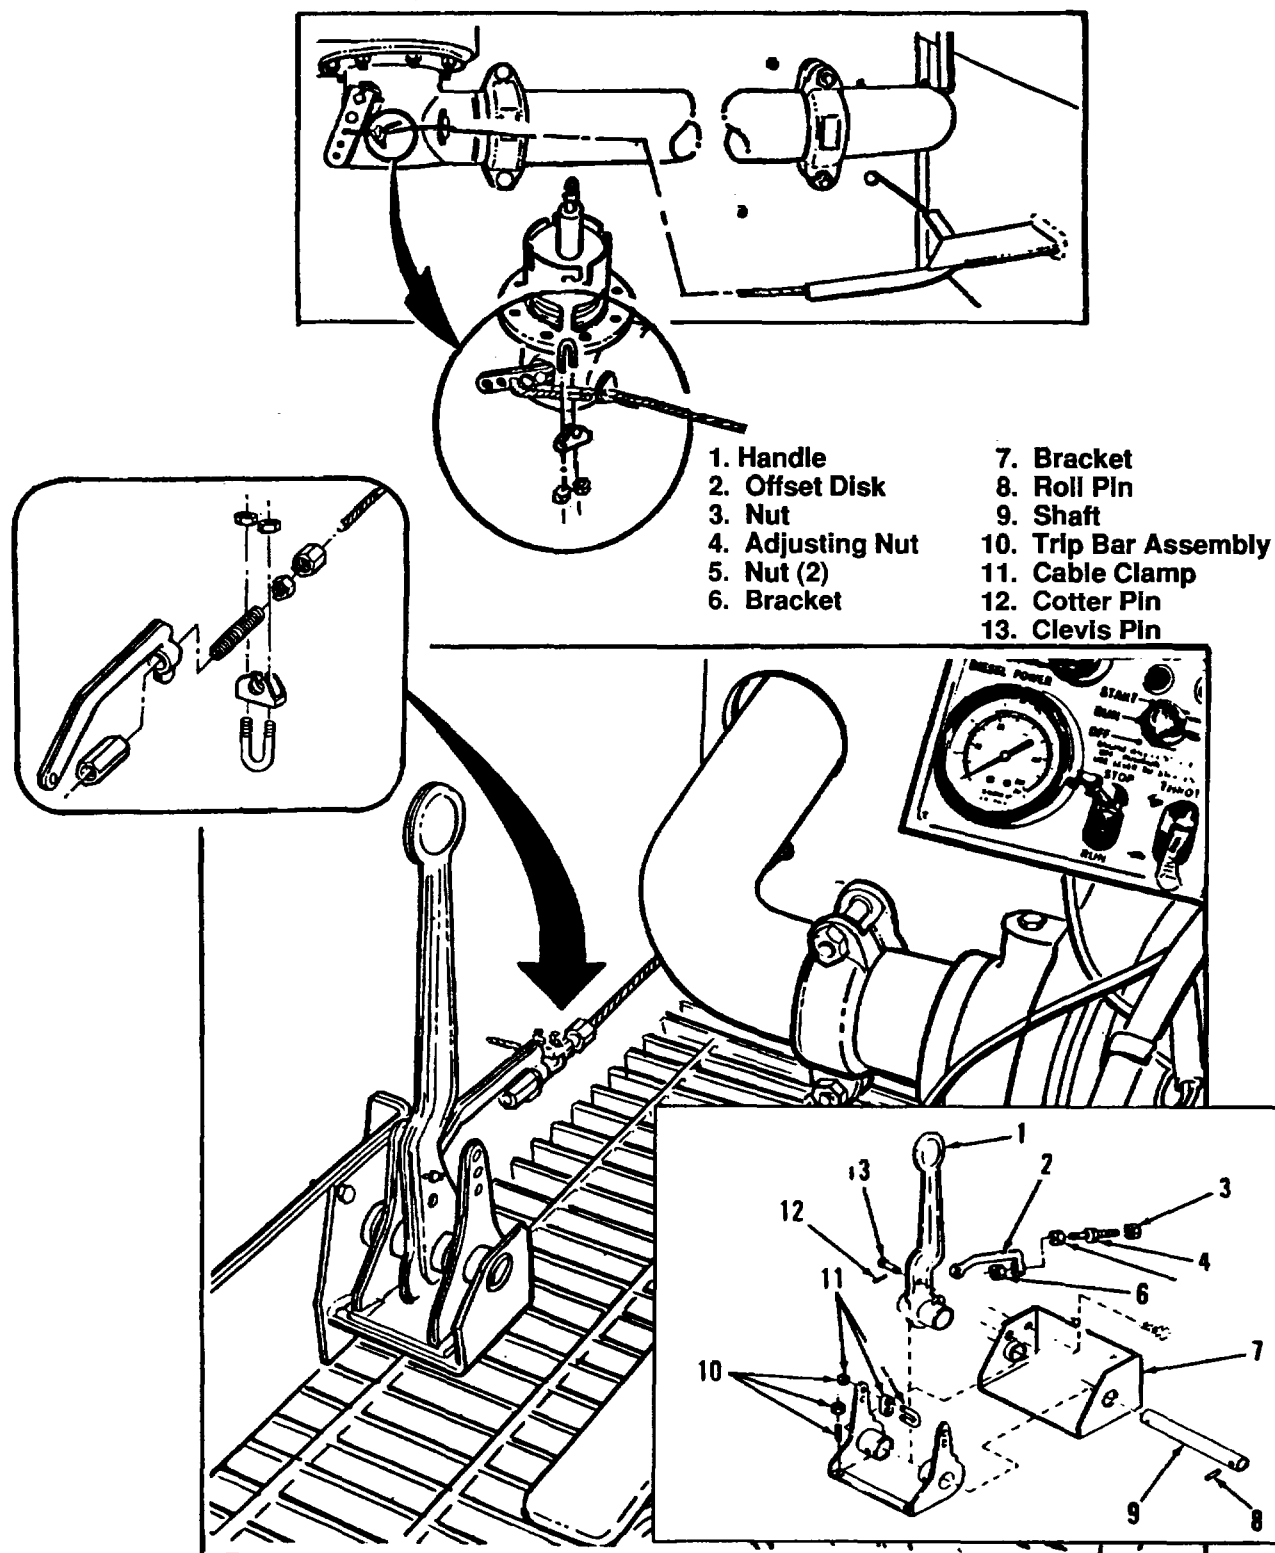

Figure 4-35. Emergency Valve Controls
4-34. Emergency Valve Control and Cable Service, Fig. 4-35.
(3) Remove cotter pin (12) and clevis pin (13) that secures offset link (2) to handle (1). Remove offset link (2).
(4) Disassemble further if needed, fig. 4-35.
(5) Reassemble by reversing steps (1) through (4).